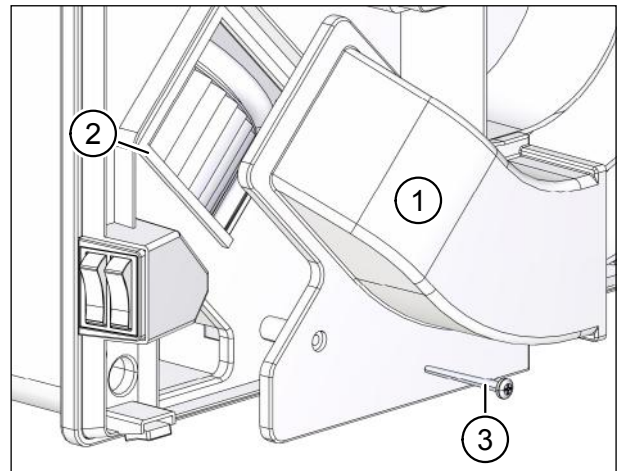

Fig. 30: Fixing the supply air hood
- ▶ Push the supply air hood (item 1 in Fig. 30) into the slotted guide (item 2 in Fig. 30). Push until you hear the latches snap into place.
- ▶ Use the screw (item 3 in Fig. 30) to fix the supply air hood.